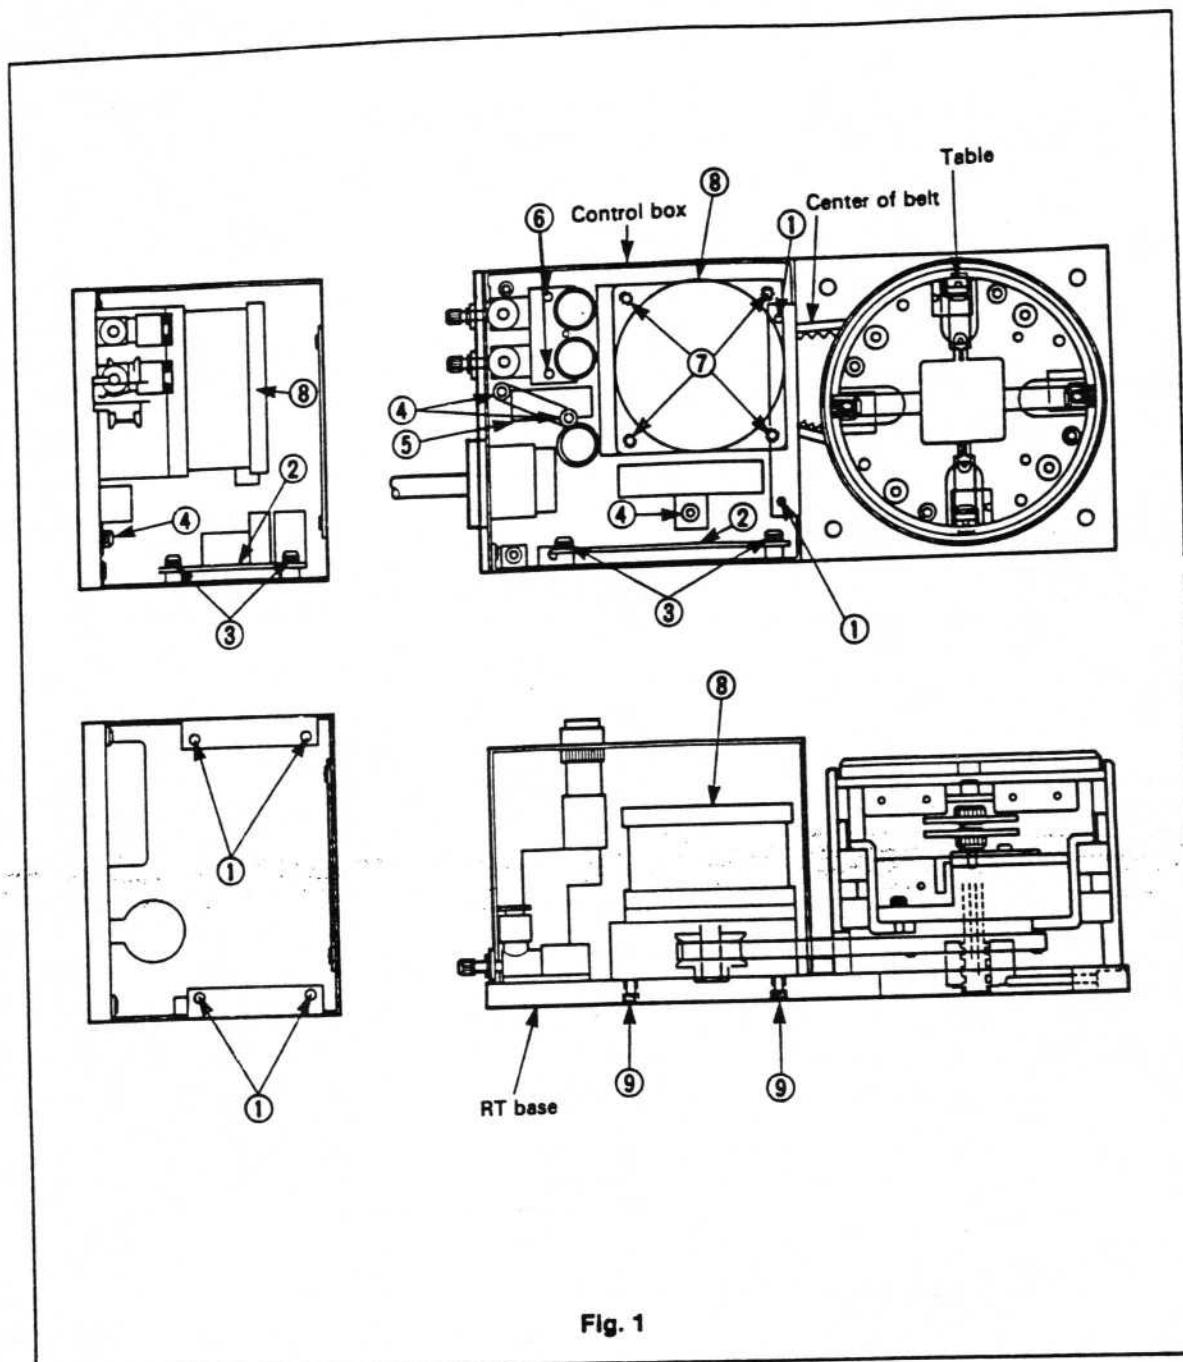

Fig. 1
- (1) Remove the screws (①, x 6) from the control box cover and open the cover (see Fig. 1)
- (2) Remove the connector to the RT PWB ② (see Fig. 1).
- (3) Remove the board securing screws (③, x 4) and resistor securing screw (④ x 1), and replace the RT board ASSY ②.
- (1) Open the cover as in section 1-(1).
- (2) Remove the solenoid valve securing screws (⑤, x 2) and manifold securing screws (⑥, x 2) (see Fig. 1).
- (3) Lift the solenoid valve (⑤ in Fig. 1) remove the air tube connected to it, remove the solenoid valve and replace it.